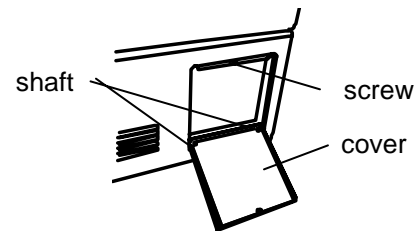

Fig. 1
Extend the leveling feet by rotating them counterclockwise until they make contact with the floor. See Fig. 1. Ensure the unit is level.
3. Remove the cover by pushing the shaft on both side outward. See Fig. 1.